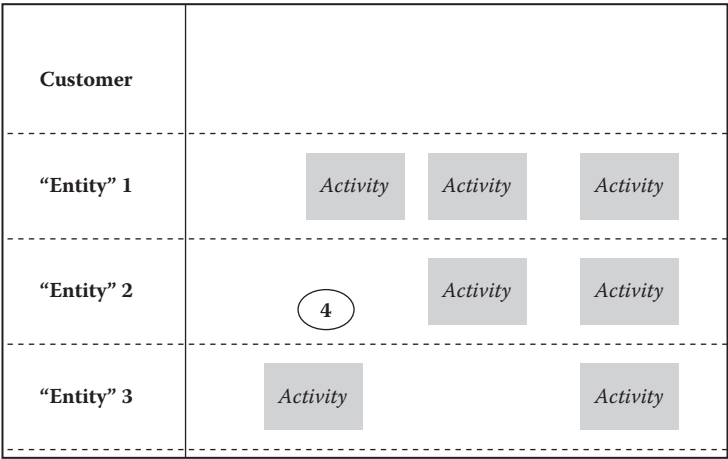

Figure 5.18 Swimlane diagram (partial); activities added using Post-it notes.
4. Ask each group member to write the activities that make up his/her portion of the process on Post-it® notes (one activity per note), and place the Post-it notes on the *mapping paper* (Figure 5.18).